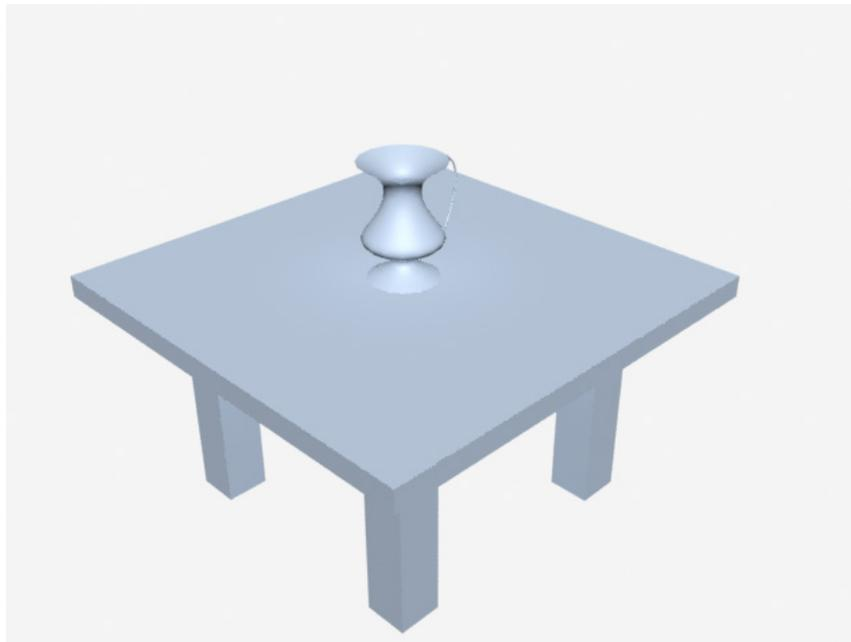

Figure 5-21 The rendered image
3. Activate the Perspective viewport. Next, invoke the **Render Production** tool from the **Main Toolbar**; the rendered image is displayed, refer to Figure 5-21.